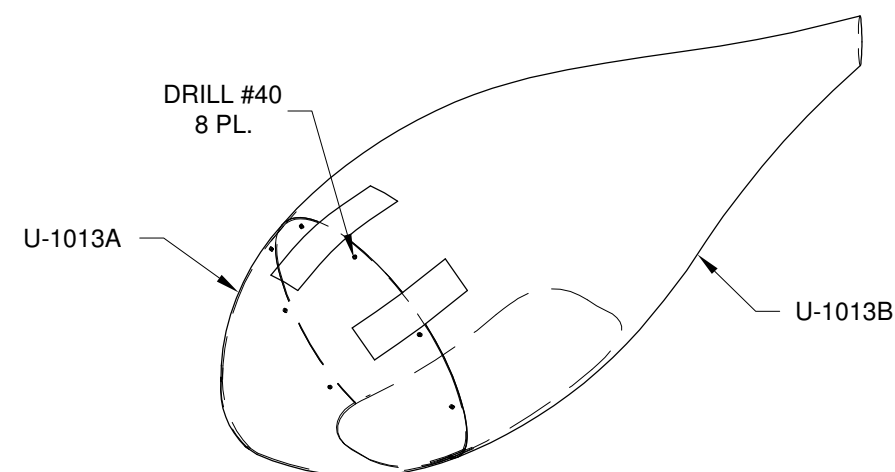

FIGURE 3: DRILLING FAIRINGS
Step 4: Drill the U-1013A Wheel Fairing Front and the U-1013B Wheel Fairing Rear screw locations as per the callout in Figure 3 installing clecos along the way. Begin at the top and progress toward the bottom of the fairing.